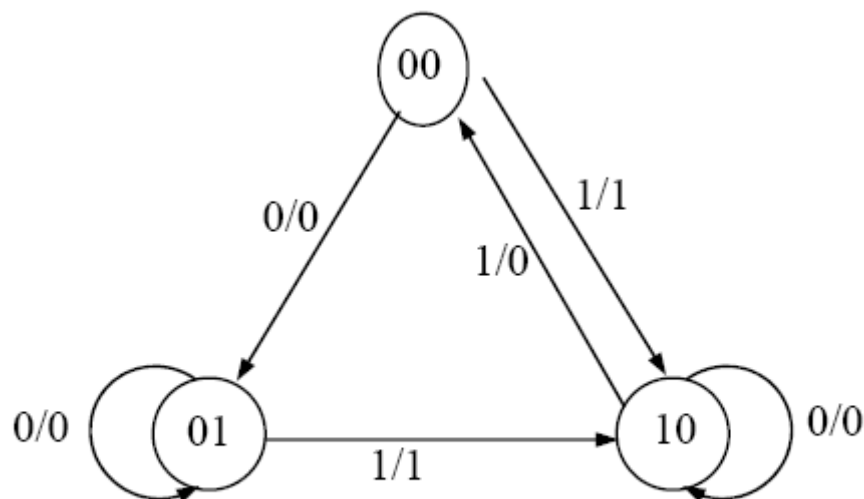

Fig. 1
- a). Design, construct and test a sequential circuit whose state is shown in Fig.1. Use JK flip-flops in the design.